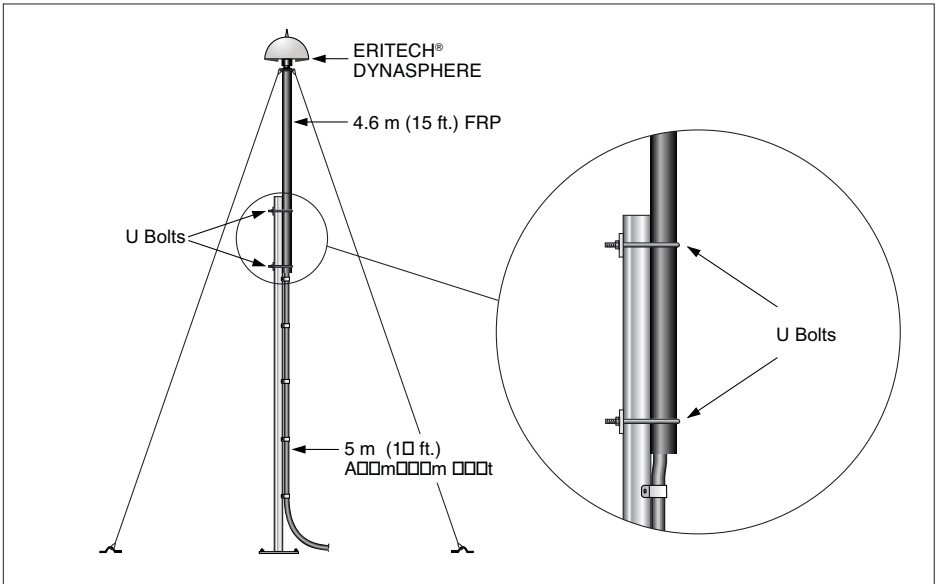

Figure 28: Use of U-Bolts.
1. The U-Bolt set, which uses two stainless steel U-bolts to clamp the two sections of mast together, (see figure 28).